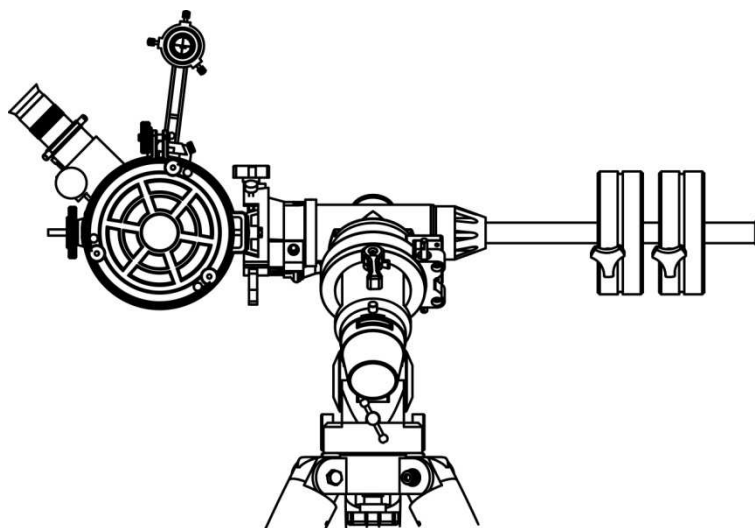

Fig 15
- 2.1.2. Bring the telescope in the position shown in fig. 15